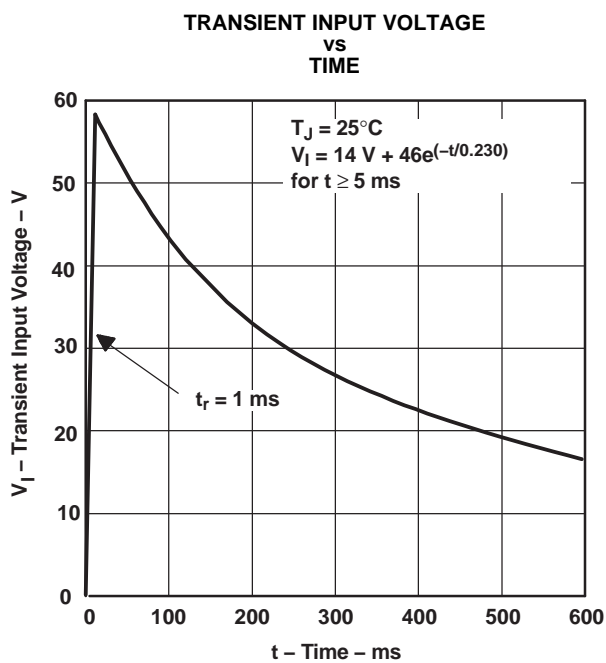

Figure 4.
(1) Pulse-testing techniques maintain the junction temperature as close to the ambient temperature as possible. Thermal effects must be taken into account separately. All characteristics are measured with a 0.1- $\mu\text{F}$  capacitor across the input and a 10- $\mu\text{F}$  tantalum capacitor on the output, with equivalent series resistance within the guidelines shown in Figure 4.
(2) Measured when the output voltage,  $V_O$ , has dropped 100 mV from the nominal value obtained at  $V_I = 14\text{ V}$